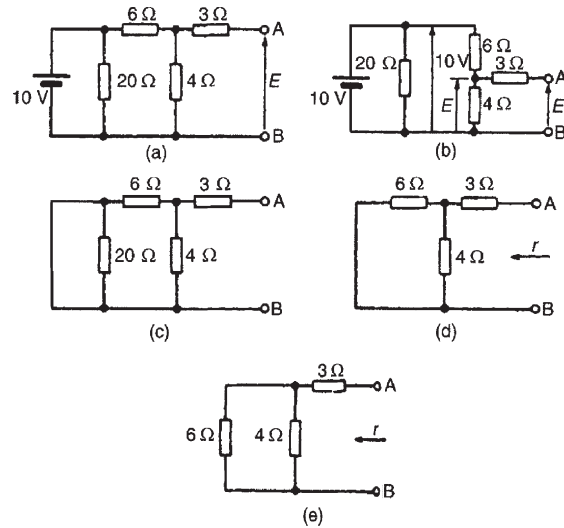

Figure 13.33
- (v) For the circuit shown in Fig. 13.33(a), the  $3\ \Omega$  resistor carries no current and the p.d. across the  $20\ \Omega$  resistor is  $10\ \text{V}$ . Redrawing the circuit gives Fig. 13.33(b), from which
- (vi) If the  $10\ \text{V}$  battery in Fig. 13.33(a) is removed and replaced by a short-circuit, as shown in Fig. 13.33(c), then the  $20\ \Omega$  resistor may be
removed. The reason for this is that a short-circuit has zero resistance, and  $20\ \Omega$  in parallel with zero ohms gives an equivalent resistance of  $(20 \times 0)/(20 + 0)$  i.e.  $0\ \Omega$ . The circuit is then as shown in Fig. 13.33(d), which is redrawn in Fig. 13.33(e). From Fig. 13.33(e), the equivalent resistance across  $AB$ ,